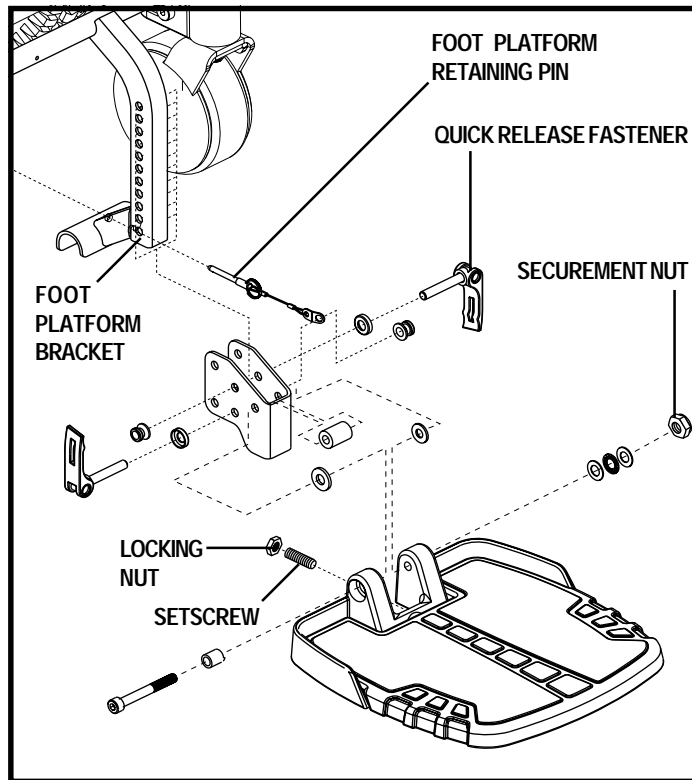

Figure 20. Foot Platform Adjustment
1. Remove the quick release fasteners from the foot platform bracket. See figure 20.
Quick Release Fasteners: The foot platform is attached to the power base with two quick release fasteners. See figure 20. Each quick release fastener consists of a bolt, a lever and a nut. See figure 21. The lever has a cam on the end that allows it to clamp into place. The quick release fastener has two states: clamped and unclamped. When the lever is open, the quick release fastener is unclamped. When the lever is closed, the quick release fastener is clamped.
You can adjust the angle of the foot platform with a hex key. See figure 20.